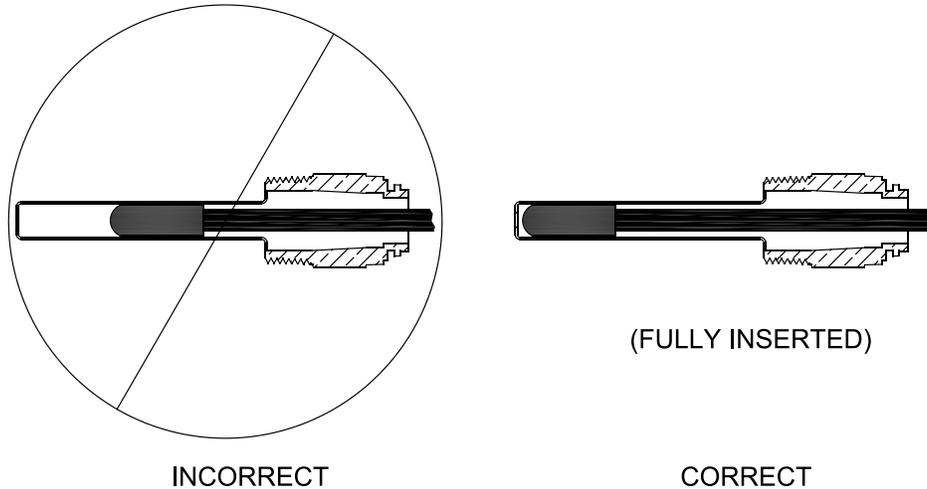

Figure 3-7: Limit Sensor Insertion
4. On boilers without a heater opening, install the well into the 3/4 in. NPT tapping "A" located on the front of the boiler in the upper left corner. See Figures 1-3 and 3-3. Tighten the well and fully insert limit sensor into immersion well such that the tip on the limit sensor touches the bottom of the immersion well. See Figure 3-7. Secure control to immersion well with setscrew.
5. On boilers with a heater opening, install the well in either the 1/2 in. NPT or 3/4 in. NPT tapping on the tankless heater plate or cover plate. See Figures 1-4, and 3-3. Tighten the well and fully insert limit sensor into immersion well such that the tip on the limit sensor probe touches the bottom of the immersion well. See Figure 3-7. Secure control to immersion well with setscrew.